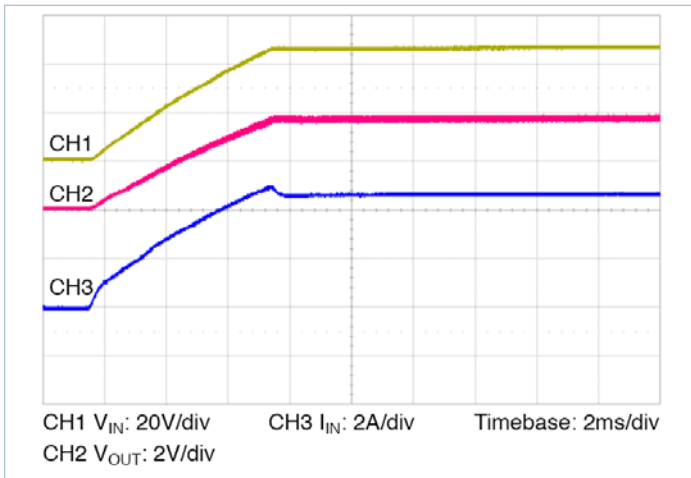

Figure 13 — Start up from application of V_{IN} ; V_C pre-applied $C_{OUT} = 9100\mu\text{F}$
- **Normal operation (VC applied prior to V_{IN}):** In this case the controller is active prior to ramping the input. When the input voltage is applied, the VTM module output voltage will track the input (See Figure 13). The inrush current is determined by the input voltage rate of rise and output capacitance. If the VC voltage is removed prior to the input reaching 26V, the VTM may shut down.